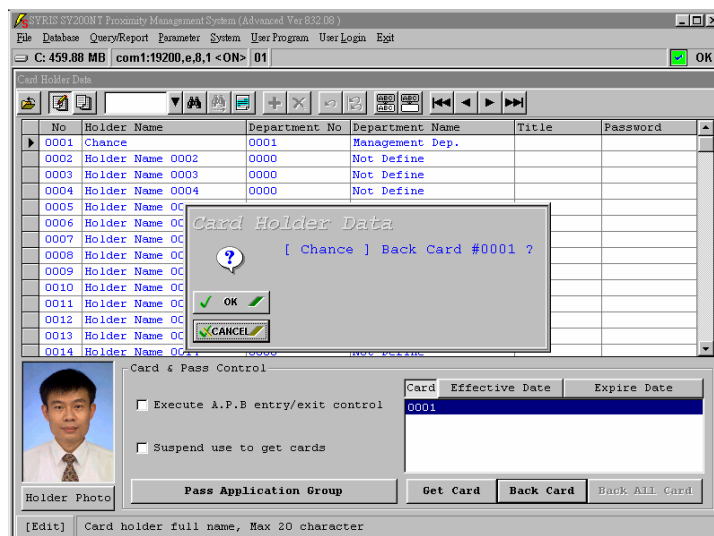

Fig.7-6 Back Card Setting
Go to "Database" and click "Card Holder Data", as Fig.7-6.
3. Click "Back Card", wait screen display, as Fig.7-6.